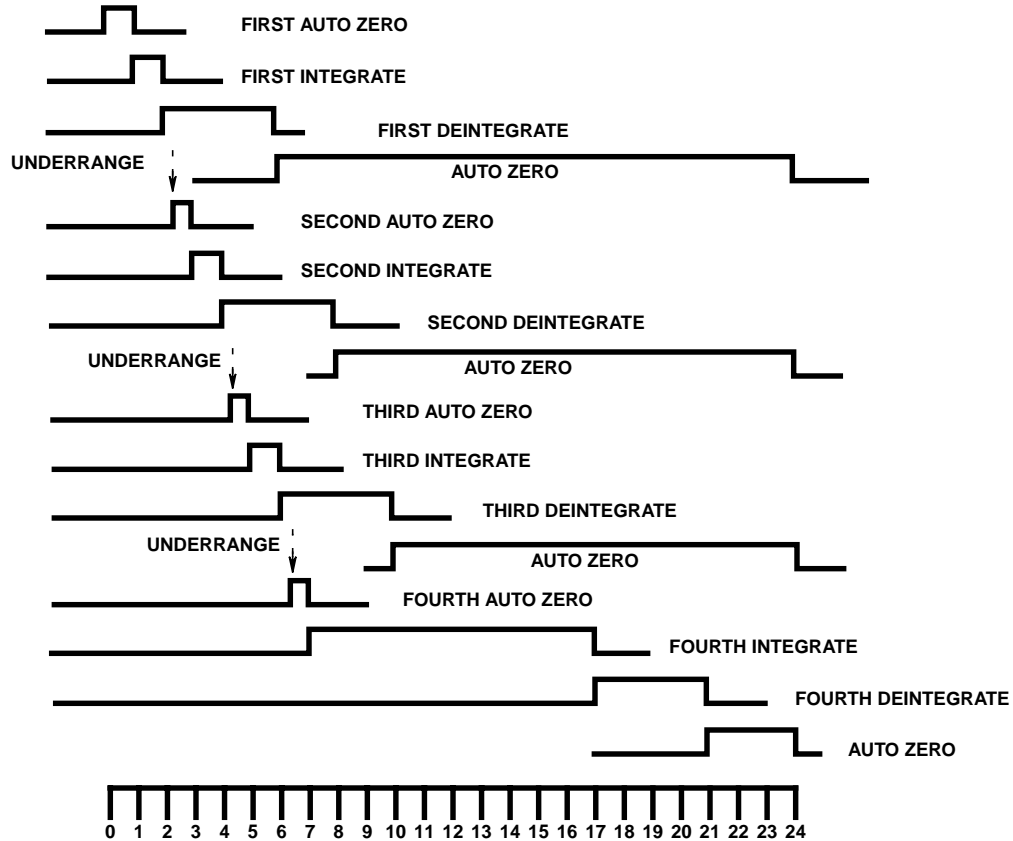
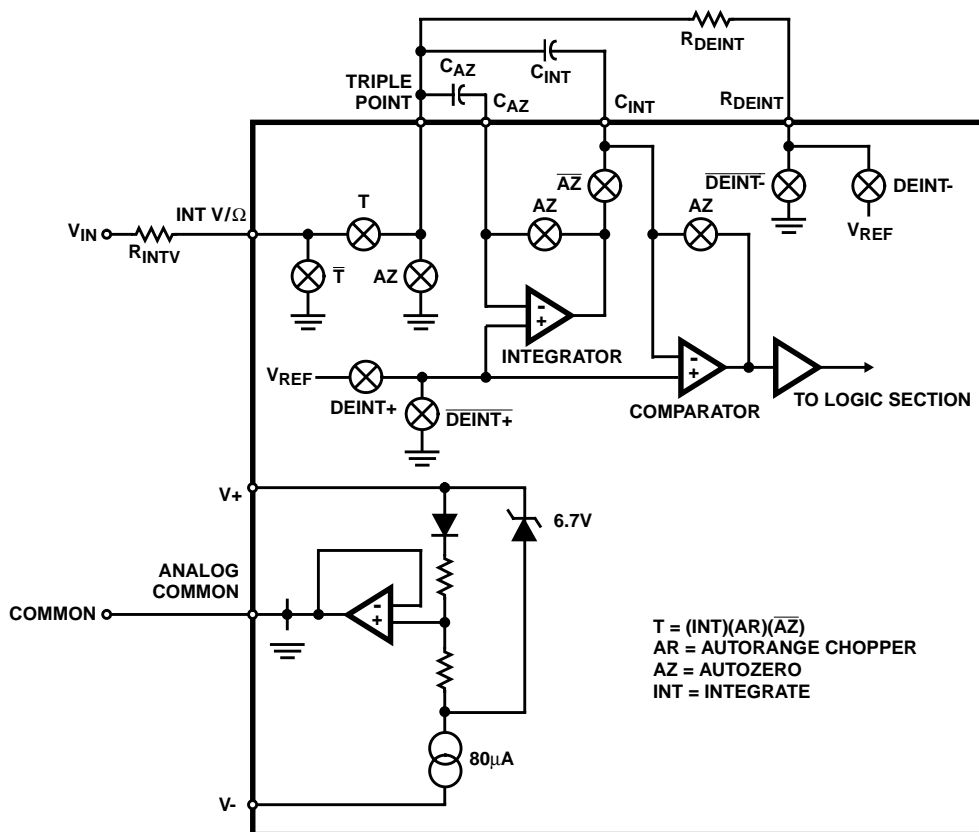

FIGURE 1. LINE FREQUENCY CYCLES (1 CYCLE = 1000 INTERNAL CLOCK PULSES = 2000 OSCILLATION CYCLES)
FIGURE 3. DETAILED CIRCUIT DIAGRAM FOR DC VOLTAGE MEASUREMENT
## Electrical Specifications V+ = 9V, TA = 25°C, VREF adjusted for -3.700 reading on DC volts, test circuit as shown in Figure 3. Crystal = 120kHz. (See Figure 14)
Only those portions of the analog section which are used during DC voltage measurements are shown in Figure 3. As shown in the timing diagram (Figure 1), each measurement starts with an autozero (AZ) phase. During this phase, the integrator and comparator are configured as unity gain buffers and their non-inverting inputs are connected to Common. The output of the integrator, which is equal to its offset, is stored on  $C_{AZ}$  - the autozero capacitor. Similarly, the offset of the comparator is stored in  $C_{INT}$ . The autozero cycle equals 1000 clock cycles which is one 60Hz line cycle with a 120kHz oscillator, or one 50Hz line cycle with a 100kHz oscillator.